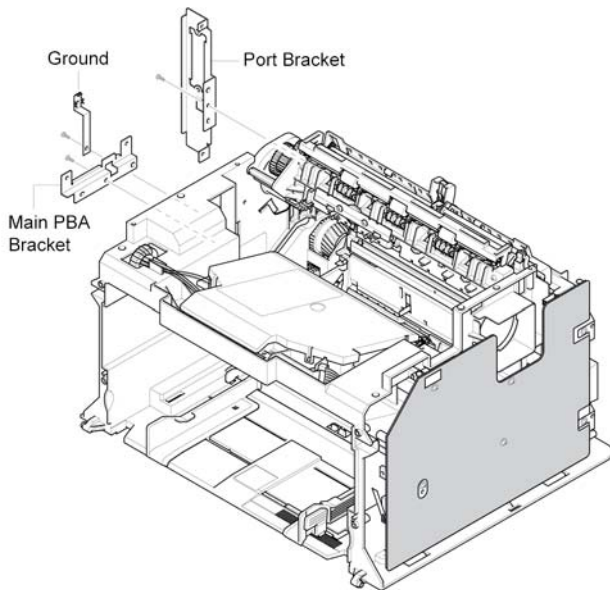

Figure 1
4. If necessary, remove bracket port, bracket main PBA and ground, Figure 1.